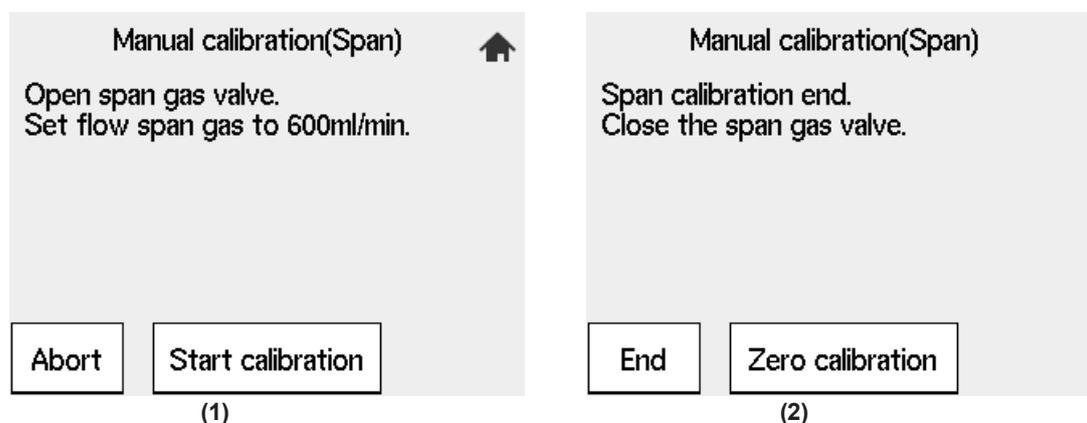

Figure 9.31 Span Gas Manual calibration
- (1) When the display shown in Figure 9.31 (1) appears during calibration, open the span gas flow setting valve of the flow setting unit and adjust the flow rate to 600 ± 60 ml/min. Turn the valve slowly counterclockwise after loosening the lock nut if the valve has a lock nut. To check the flow rate, use the calibration flowmeter. If the sample gas pressure is extremely high, adjust the sample gas pressure to obtain pressures (listed in Table 9.10) ± 10%.
- (2) Adjust the flow rate and select "Valve opened" from the Manual calibration display. Check the Trend graph display to see that the measured value is stabilized. Then press the [Enter] key. The Manual calibration display shown in Figure 9.31 (2) appears.